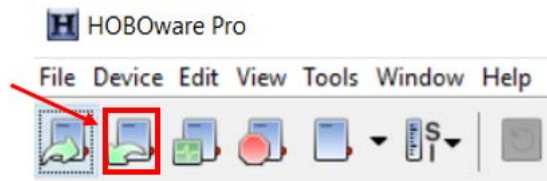

Figure A.12.12: The HOBOWare readout button.
4. Click the “Readout” button on the top left corner of the screen (Figure A.12.12).